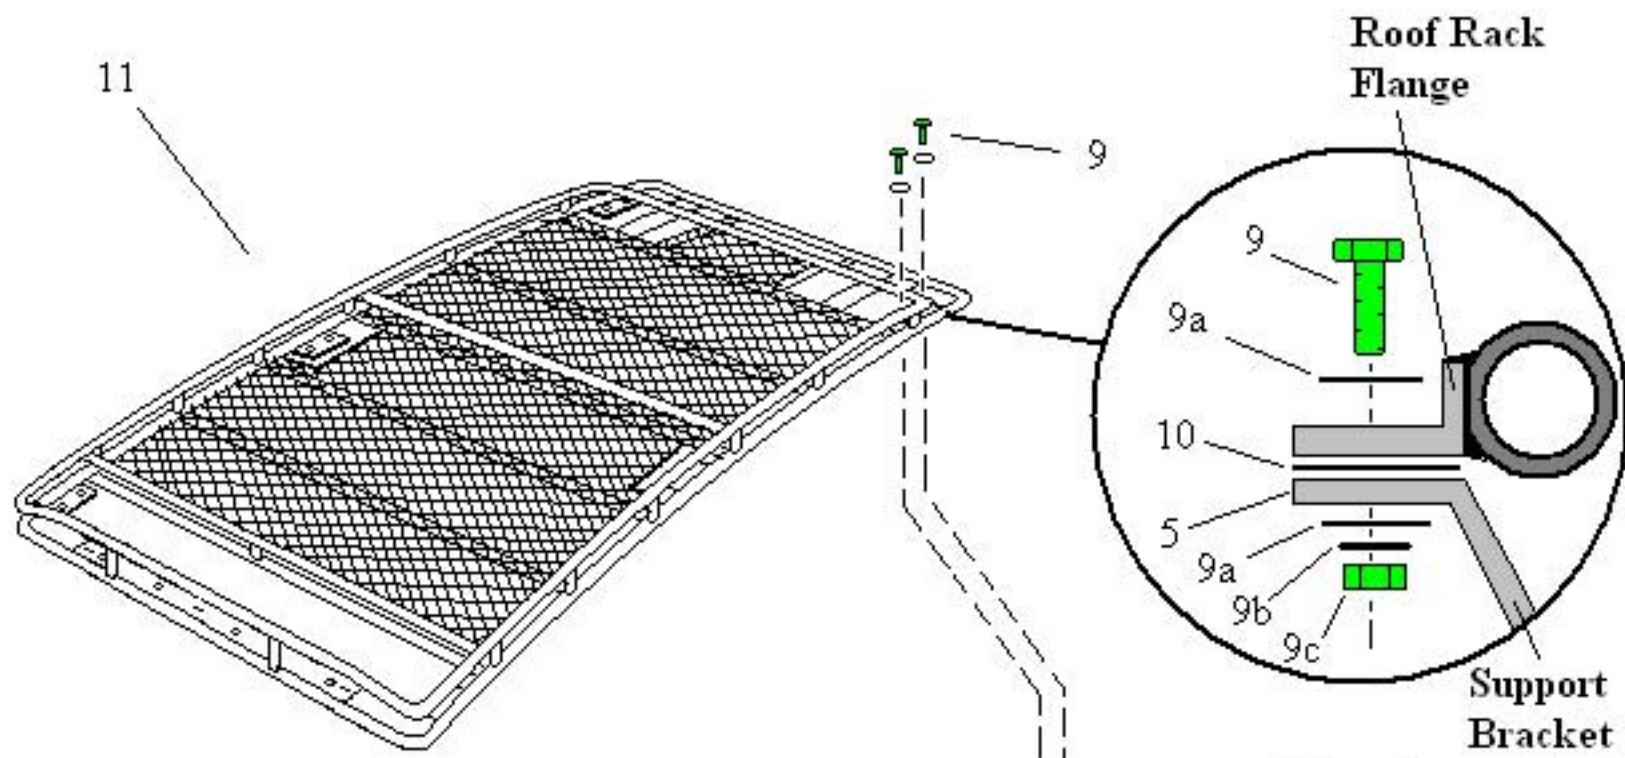
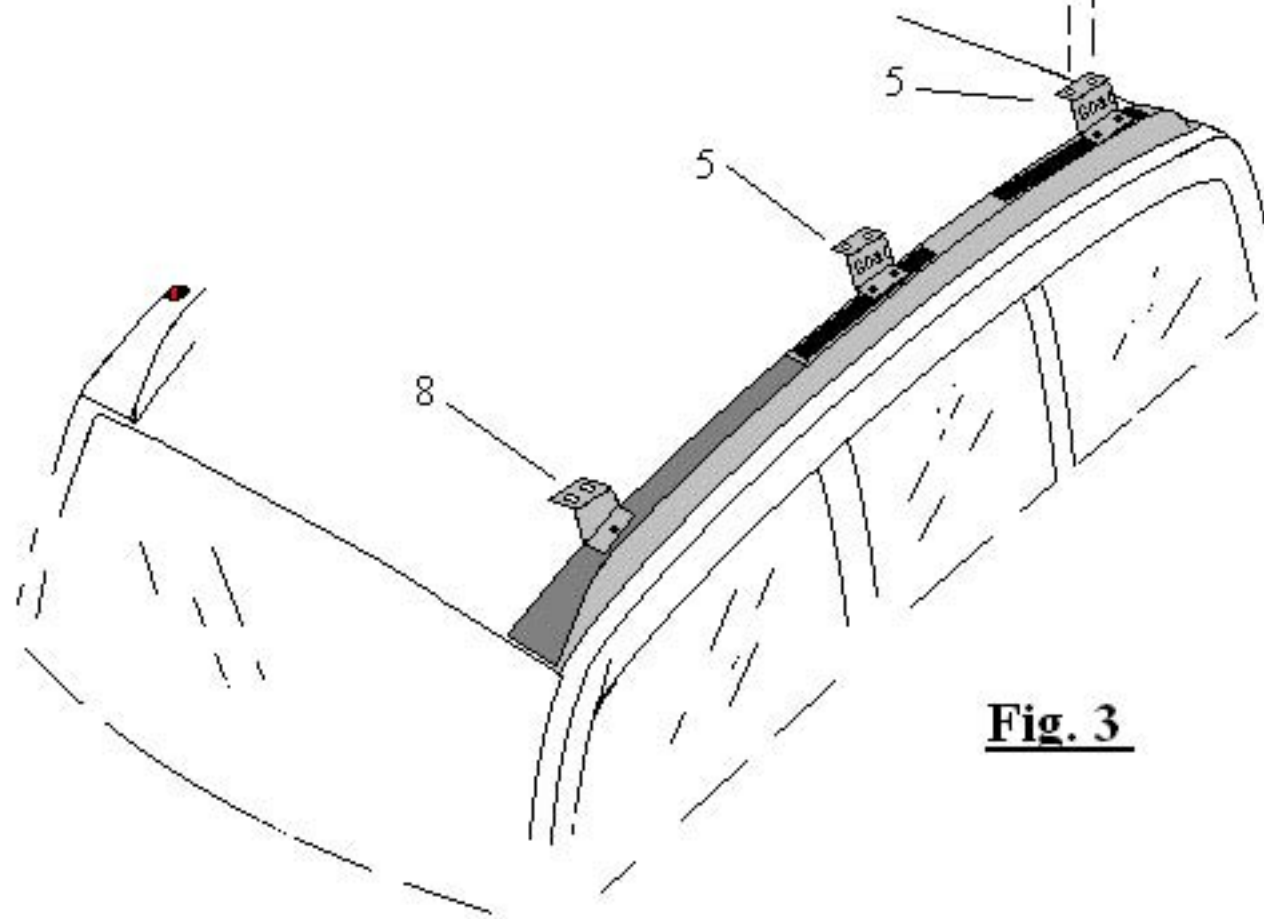

Fig. 4
Fig. 3
- 5- Refer to page 6 Fig. 3 and place the GOBI roof rack #11 onto all support brackets #8 and #5 at this time. Using the mounting hardware located in Bag 4 of your install kit place a black rubber pad #10 between the front two #8 support brackets and the roof rack welded in flange as shown in Fig. 4 page 6. Continue by installing the 3/8" hex bolts #9 and flat washers #9a through the welded in flange and support brackets followed by a 3/8" flat washer #9a, lock washer #9b and lock nut #9c then snug down at this time. After the front two support brackets are attached to the Gobi roof rack check the middle support bracket #5 and the rear support bracket #5 and align the support brackets to the Gobi welded in flanges of the roof rack. This can be accomplished by sliding the support plates #5a and #5b to the rear or the front of the vehicle. Once alignment is confirmed proceed by installing the remaining bolts through all roof rack flanges and support brackets as shown in Fig. 4 page 6. Snug down all hardware only at this time.
- 6- After you have aligned the Gobi roof rack with your vehicle begin tightening all support plates to the vehicle roof top by tightening all #7 M6 x 15mm mounting screws as shown on page 5 Fig. 2. Followed by fully tightening the #7 screws of the front two #8 support brackets to the roof top. Continue by fully tightening all roof rack mounting bolts as shown on page 6 Fig. 4.